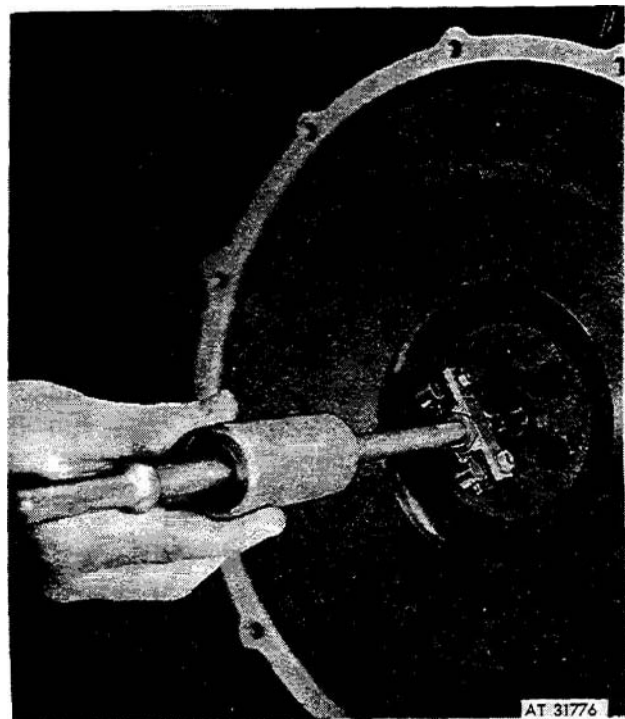

Figure 2-6. Removing pilot bearing
(5) Disconnect clutch disc (2) and pressure plate (3) by removing screw (5) and lockwasher (4). Using a suitable puller, remove pilot bearing (1) from flywheel (fig 2-6).